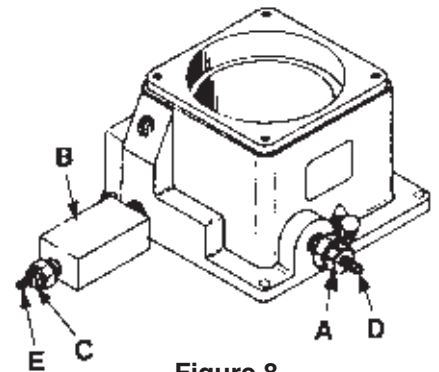

Figure 8
1. See Figure 8. Loosen the locknut (A) on the pressure regulating valve. Using a screwdriver, turn the adjusting screw (D) a few turns counterclockwise to decrease the pressure setting.
3. Slowly turn the adjusting screw (D) clockwise to gradually increase the pressure setting. When the desired pressure setting is reached, lock the adjusting screw in position by tightening the locknut (A).